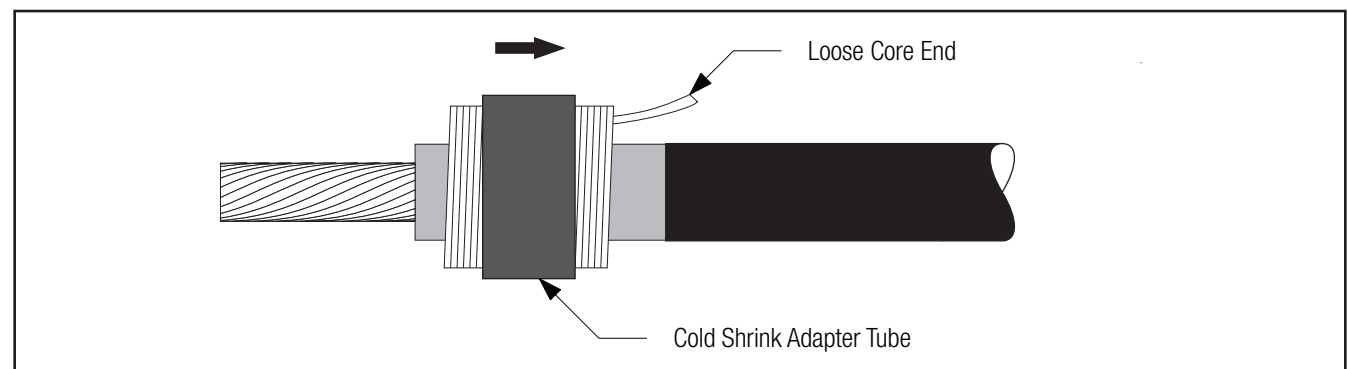

Figure 7
**For 2/0 AWG through 250 kcmil copper connectors, 1 through 3/0 AWG aluminum connectors, or connectors with an O.D. between 0.53–0.84" (13,5–21,3 mm):** Slide the cold shrink adapter tube with the **WHITE CORE** onto the insulation with the loose core ribbon end going on first, away from the cable end (Figure 7).